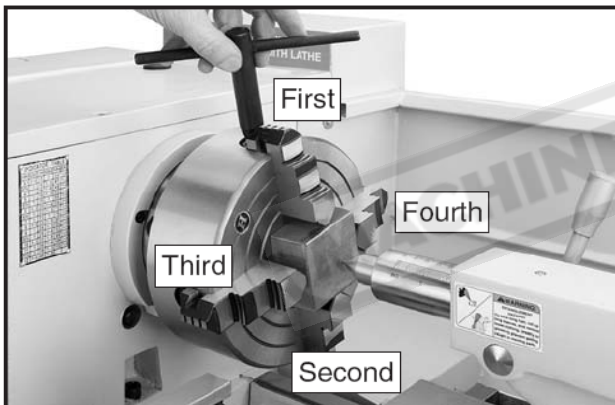

Figure 19
5. Turn the tailstock quill so the dead center applies enough pressure to the center point of your workpiece to hold it in place (**see Figure 19**), then lock the tailstock quill.
7. Tighten each jaw in small increments. After adjusting the first jaw, continue tightening in opposing sequence (**see Figure 19**). Check frequently to make sure the required point on the workpiece has not wandered away from the spindle centerline due to applying too much pressure to a single jaw.